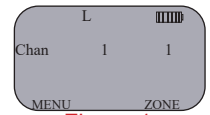

Figure 1
- Enter the zone number via the key pad and press the "OK" softkey. (See Figure 1)